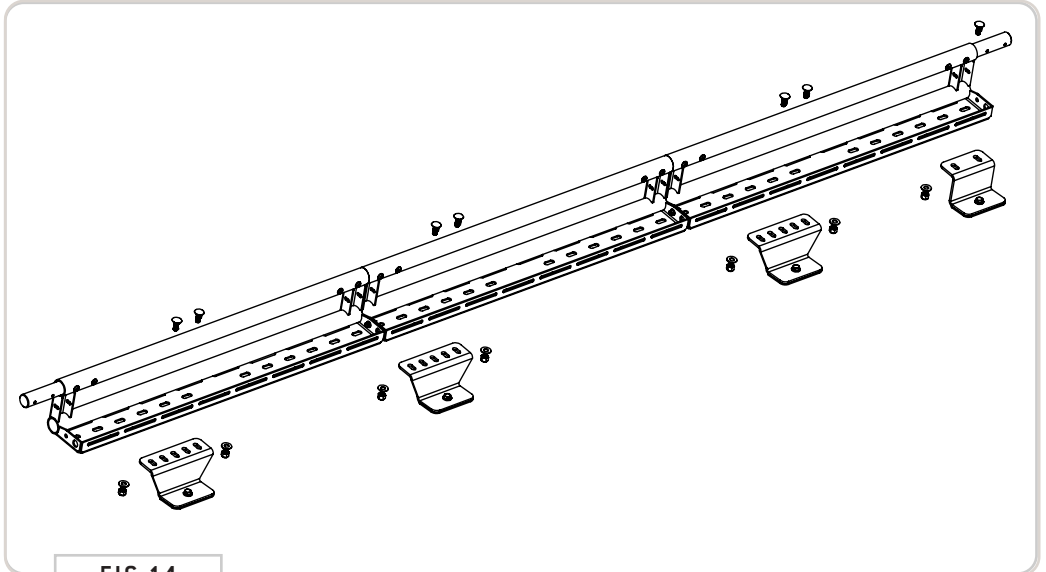

FIG 14
**5.1 Mount Side Rails to Van Rails:** With assistance, lift the **Side Rail Assembly** onto the roof. Align the **Side Rail Assembly** with the mounting holes of the **Foot Brackets** and secure loosely using **3/8-16" Carriage Bolts, Flat Washers and Nylon Locknuts** as shown in FIG 14+15.